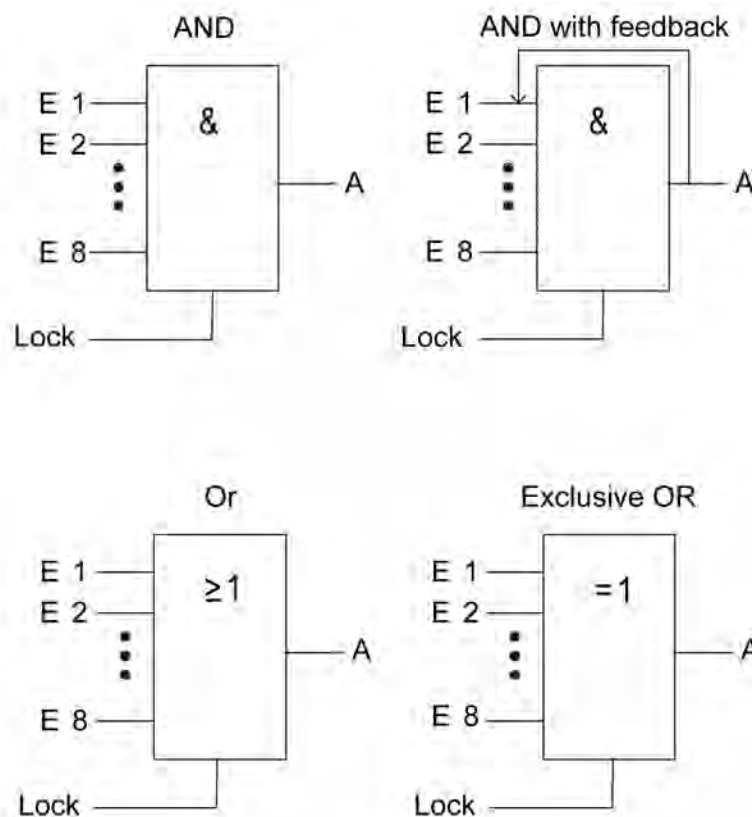

Figure 29: Link functions
A logic gate consists of up to eight 1 bit input objects (E1...E8), which can be added by clicking the right mousebutton, a 1 bit output object (A) and an option blocking object. For each logic gate, the parameter "Link type" can be used to select one of the logical functions AND, OR, exclusive OR or AND with return, which is then also shown in the tree structure (figure 29). In addition, each input and the output can be evaluated normally or inverted.